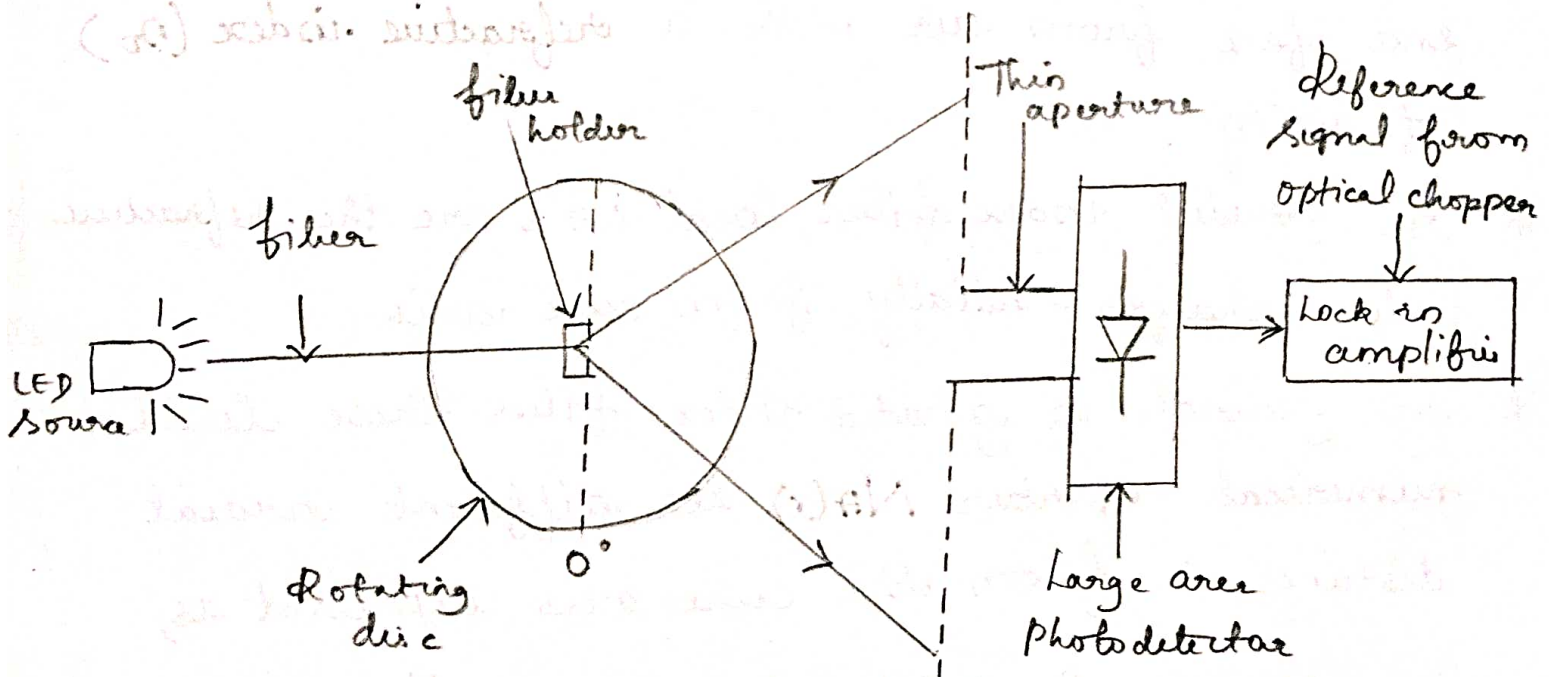

fig 4: 21 Fiber numerical aperture measurements using rotating stage
* 2m length of graded index fiber with smooth faces and the fiber output end is then positioned on the rotating stage as shown below, fig 4: